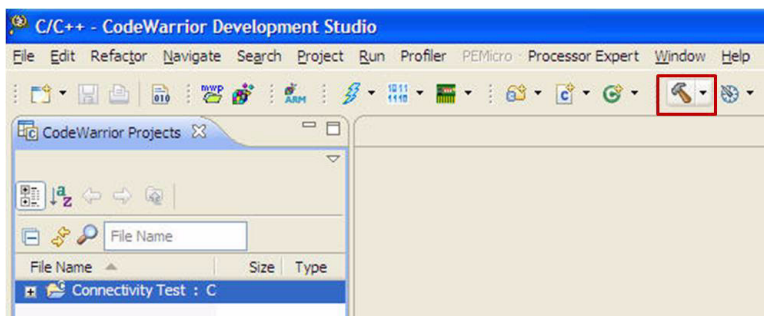

Figure 1-8. Build Button
1. From the CodeWarrior main window, select the previously created project and click on the “Build” button as shown in Figure 1-8.